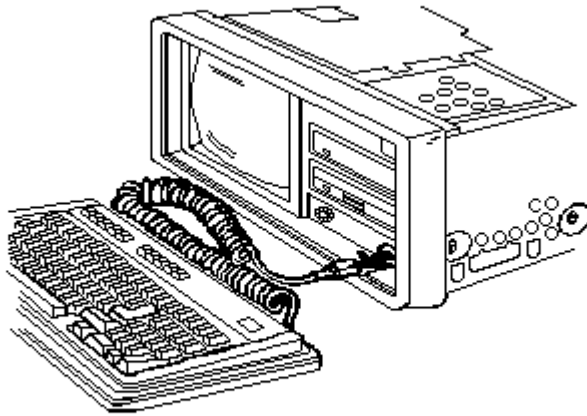

Figure 8-19. Standard Working Position
2. Place your COMPAQ PORTABLE II Personal Computer in a standard working position with the outer access casing removed (Figure 8-19).